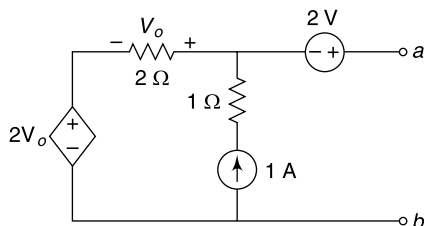

Fig. 4.198
37. Find Norton's equivalent circuit of the network shown in Fig. 4.198.